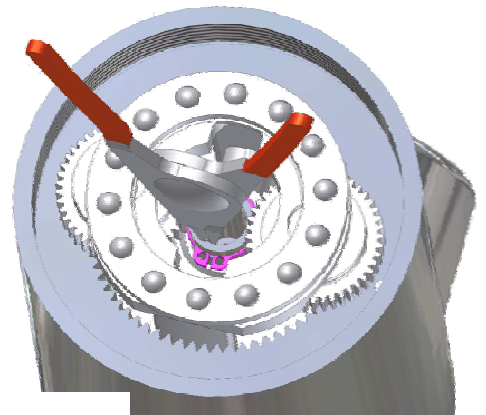

Figure 16
6. Remove position 38 using snap-ring pliers (Figure 31) from position 32.3 and as shown in Figure 16.